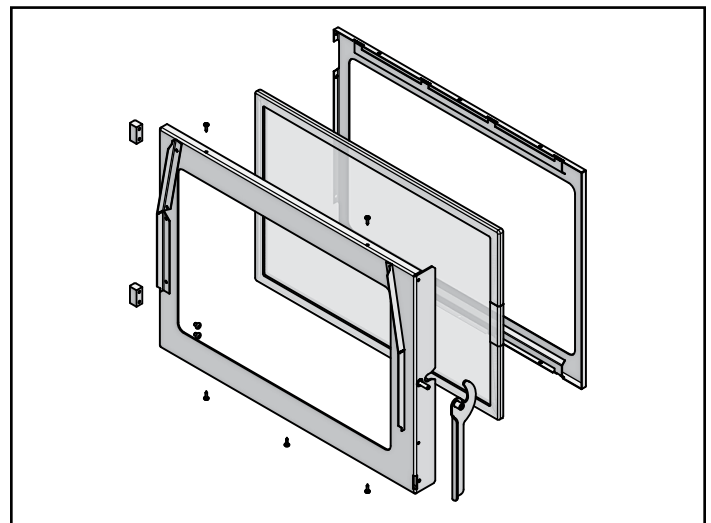

Figure 24.3
2. Using a Phillips head screw driver, remove 4 screws, 2 on the top and 2 on the bottom. Remove metal bracket and then remove the glass (Figure 24.3).